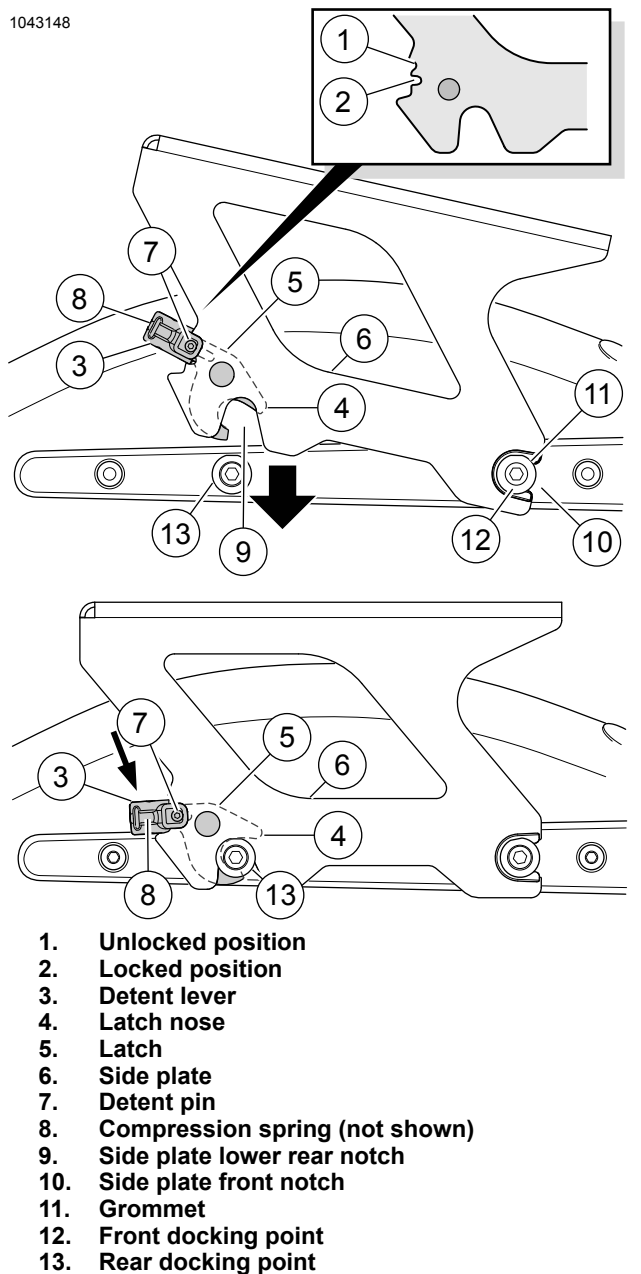

Figure 1. Detachable Two-Up Tour-Pak Mount Installation
1. See Figure 3. Position the right (4) and left (3) latch levers in the unlocked position as shown in Figure 1, upper view (Item 1).
- a. Pull both detent levers (3) rearward against the compression spring (8, not visible).
- b. Rotate the levers upward so each latch nose (4) is positioned inside the lower rear notch (9) of the side plate (6).
- c. Each detent pin (7) is now located in the uppermost (unlocked position) notch.
- d. The compression spring (8) inside the detent lever holds the latch (5) in the unlocked position.
2. Push the Tour-Pak® mount front notches (10), with grommets (11) in place, firmly and evenly into the front docking points (12).
3. Figure 1, lower view. Swing the rear of the Tour-Pak mount side plates (6) downward toward the rear docking points (13).
- a. As the side plates (6) move down, the latches make contact with the plastic surface of the rear docking points.
4. As the docking points contact the latches, each latch nose (4) is forced upward.
- a. This causes the pin (7) to move down into the lowermost (2-locked) position on the side plate.
- b. The springs (8) lock each latch firmly in place around the rear docking points.
5. Make sure that detent pins (7) are fully seated against the side plates (6).
- a. If not fully seated, push detent lever (3) forward.
- a. As the levers rotate upward, the latch noses (4) are forced against the rear docking points (Figure 1, Item 13).
- b. This raises the rear of the Tour-Pak mount side plates (6) out of the docking points.
3. Release the detent levers. The springs (8) will move each lever back into the unlocked position (1).